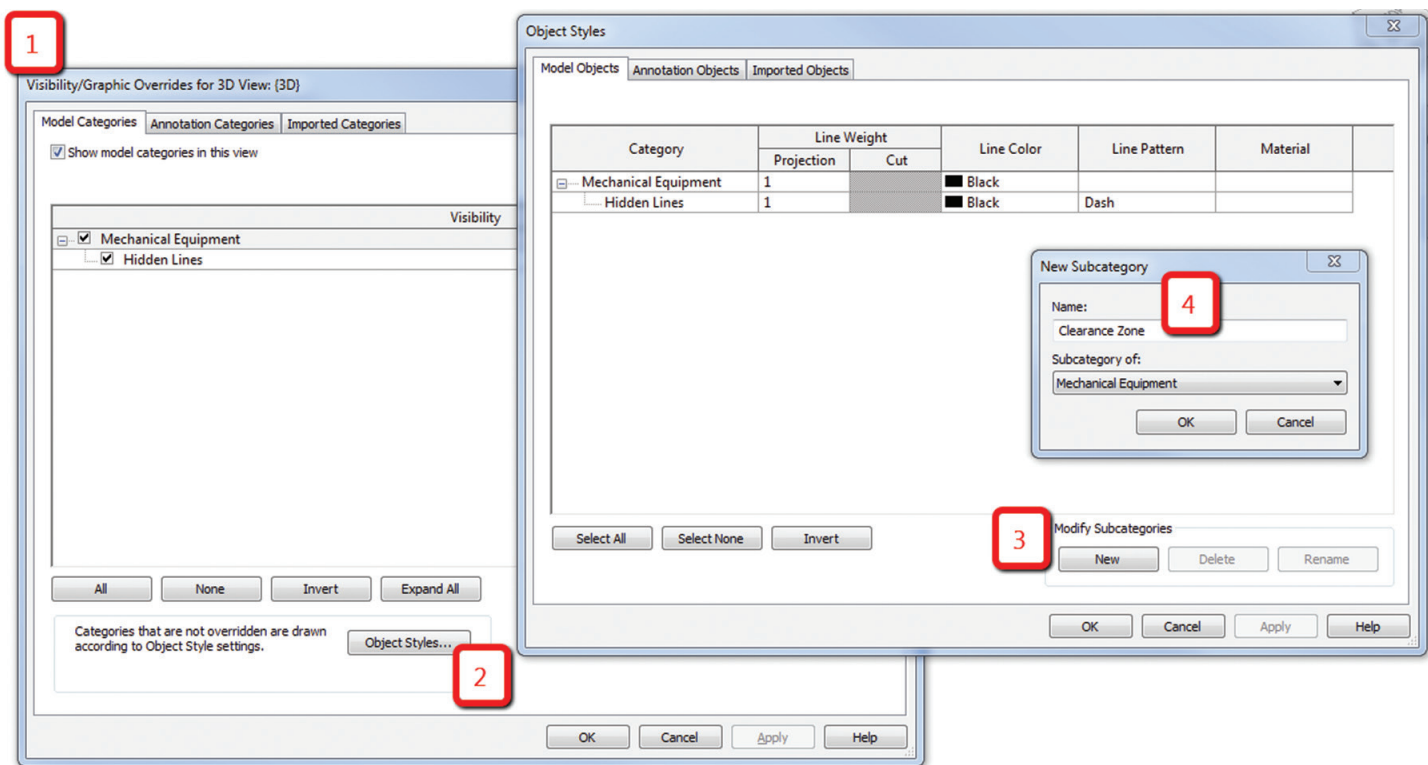

Figure 1
With this family open, navigate to your Visibility Graphics (VG), select Object Styles, click New under the Modify Subcategories and call your New Subcategory Clearance Zone, making sure that the correct "Subcategory of" is selected (Figure 1).